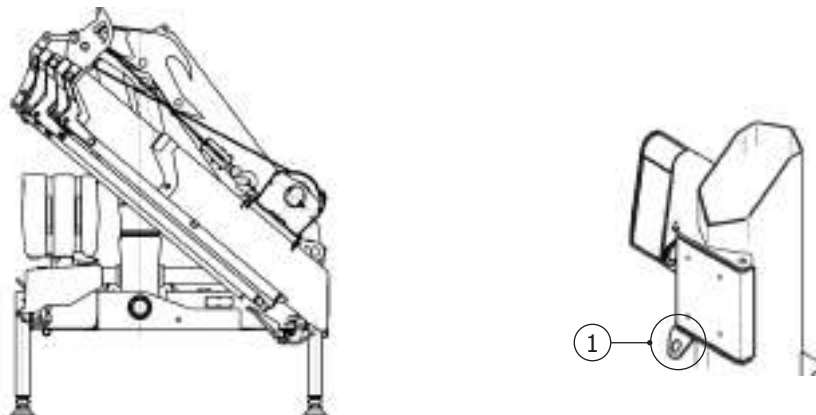

Fig. 9.V.6
**i** In some cases, still observing the maximum overall dimension for transport, it is possible to fold the crane without removing the fixed pulley (fig. 9.V.6) and by fixing the winch hook to the specific outer boom bracket (fig. 9.V.6 - position 1).